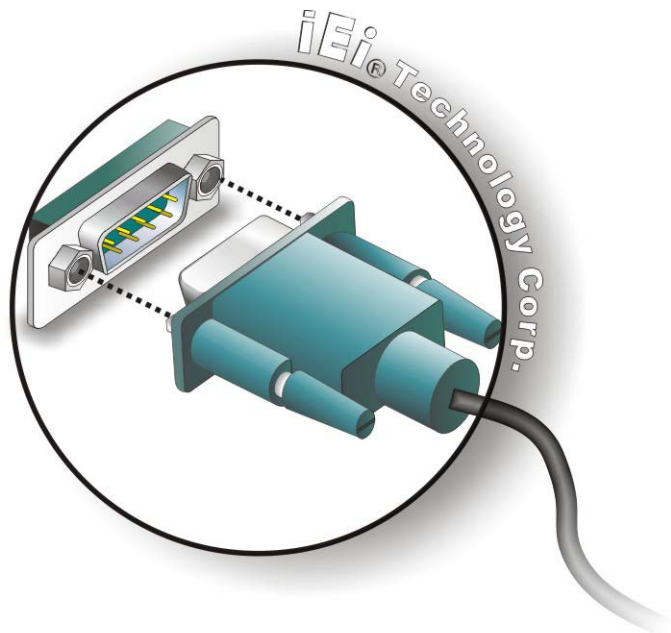

Figure 3-22: Serial Device Connector
Step 2: Insert the serial connector. Insert the DB-9 connector of a serial device into the DB-9 connector on the external peripheral interface. See **Figure 3-22**.